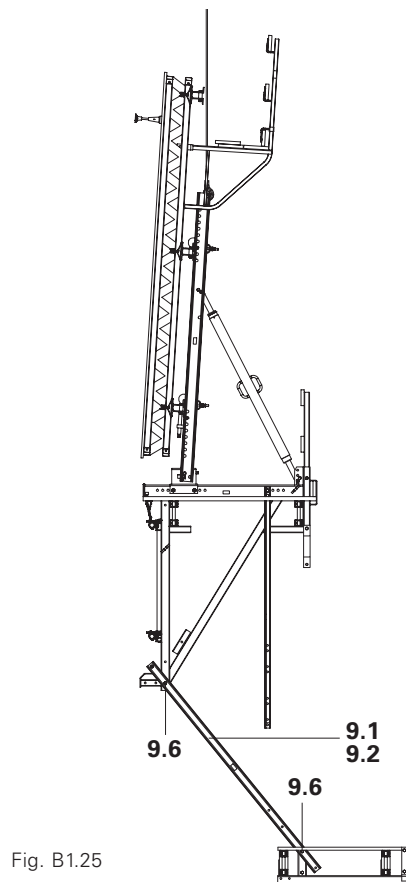
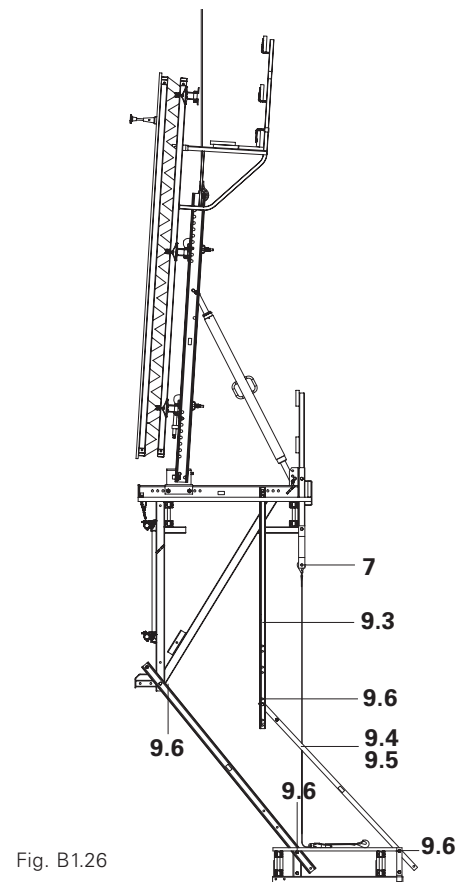

Fig. B1.25
Fig. B1.26
4. Bolt Platform Post 225 (9.1) to post extension 180 (9.2) and fix to the bracket and finishing platform at an angle with bolt (9.6). (Fig. B1.25) Depending on the concreting height, use top or bottom hole. (Fig. B1.26)
6. Fix the toe board at the lower end. (Fig. B1.26)